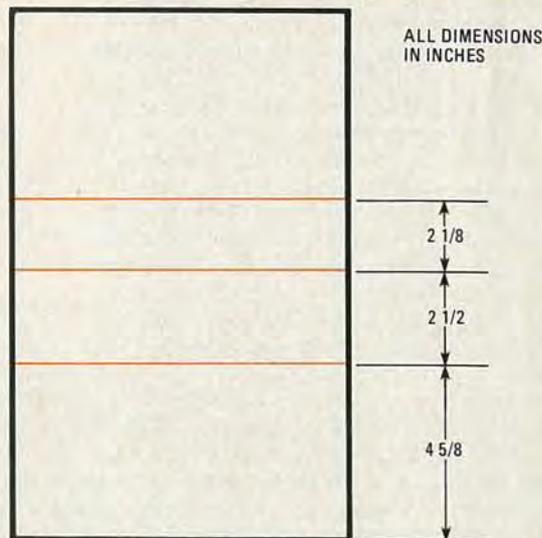

FIG. 7—INSIDE OF FRONT, BACK, AND SIDES should be marked as shown. Pieces should also be marked to indicate function ("FRONT," "L. SIDE," etc.).
9. Draw three parallel lines on each panel as shown in Fig. 7.